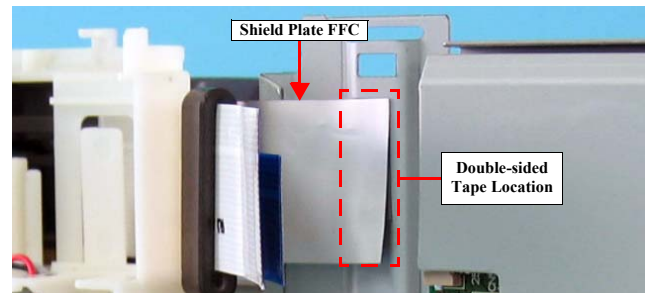

Figure 4-66. Removing Shield Plate FFC
- The Shield Plate FFC should be attached to the location shown in Figure 4-66 with double-sided tape.